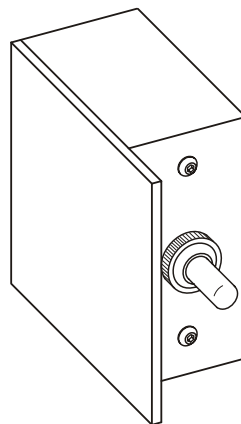

Figure 4 Cargo Area Light Switch
15. To remove a switch (Figure 4):